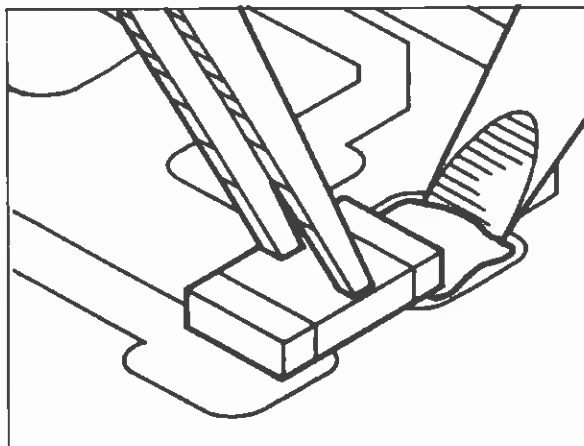

Figure 4 - 4
5. With one component end tacked to hold it, the other end can be soldered. Carefully apply heat to the PC pad while adding only enough fresh solder to produce a clean fillet as in Figure 4 - 5—do not apply too much solder, otherwise it may flow underneath and short the pads together. Let the hot solder flow onto the component—do not touch the component with the iron. Repeat to finish the other end of the component. Solder must adhere to all metallic end-surfaces on both ends as shown in Figure 4 - 6.